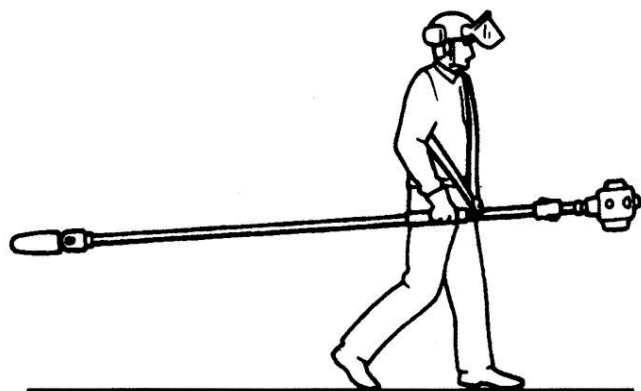

Figure 1
- When carrying by hand, the chain Should be pointing backward. See Figure 1.